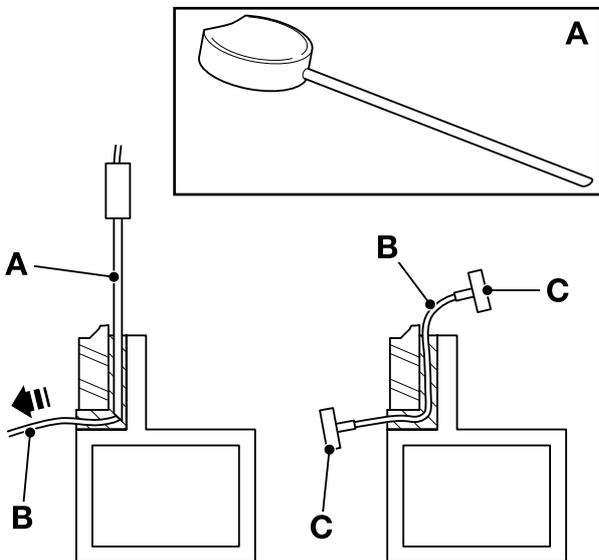

Fig 2. Braided Cutting Wire and Handles
- b Braided Cutting Wire and Handles.** ⇒ Fig 2. \(□ B-51\). This method uses a 3-core wire, a wire starter tube and two handles.